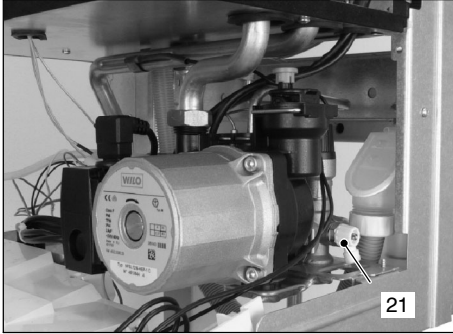

Fig. 9.4
- 2 Open the central heating drain cock (21 in Fig. 9.4).